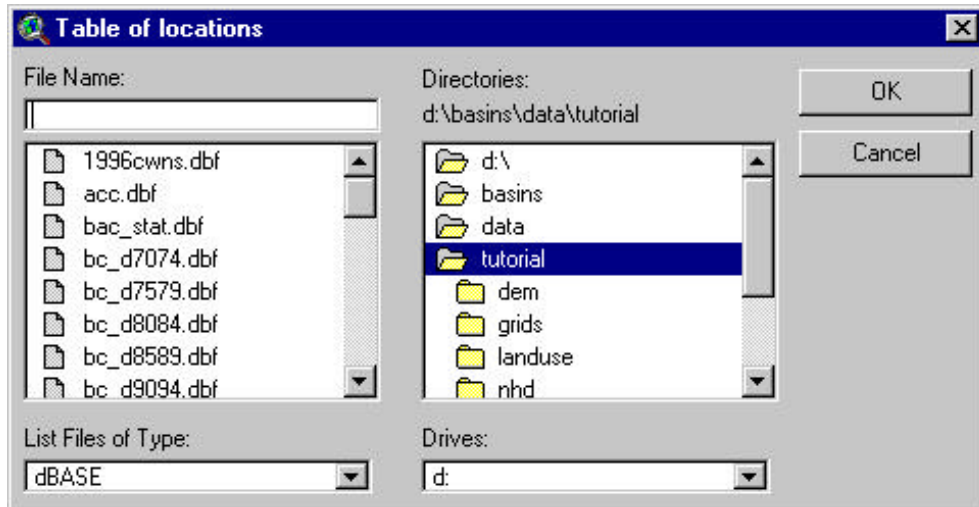

Figure 5.34
2. Click on the **Add by table** button next to the "Table" text box. A file browser will appear (Figure 5.34) allowing you to select a dBASE table. Select the file name and click **OK** (or double click the selection).